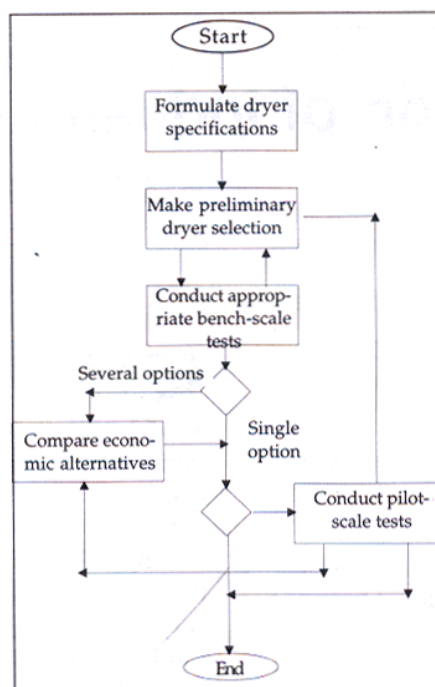

Fig 1: Iterative approach to dryer selection
The selection of drying equipment remains predominately an art in which knowledge, experience and science all play important roles. Because of the complexity of the drying process, many factors need to be considered and weighed upon and still there is “no” right answer due to varied technical and economical viability. According to survey conducted by SPIN (Solid Processing Industrial Network), U K, selection of dryer is a key problem faced by all companies. Over 90% of the companies have made errors in selection of their new dryers (2). The optimal choice can be defined as the dryer that satisfies all designated quality parameters. Figure 1 illustrates a structured technique for dryer selection (5).